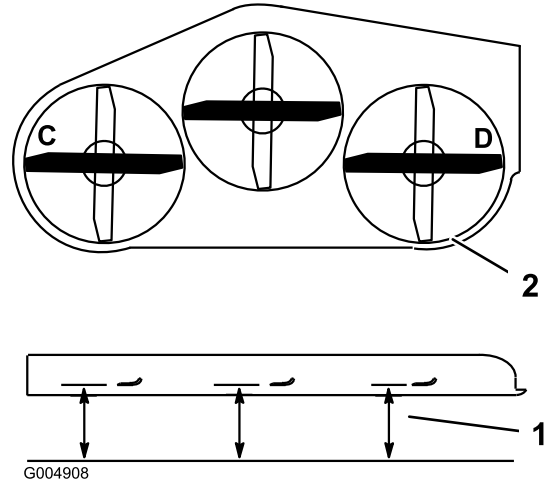

Figure 73
3. Measure at C and D locations from a level surface to the cutting edge of blade tips (Figure 73).